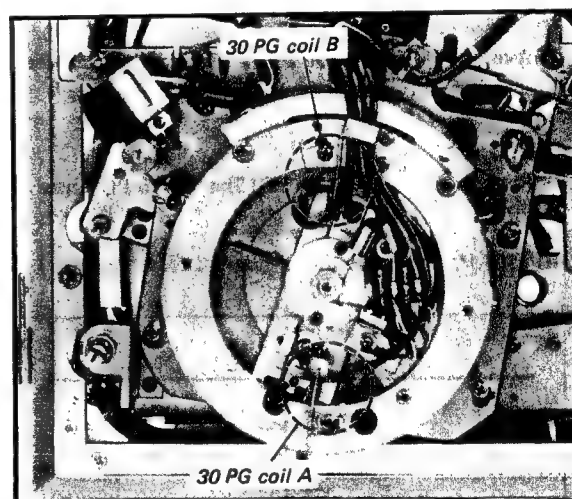

Fig. 6-8. 30 PG Coils A and B
6. If it is correct, proceed to the "30 PG PULSE PHASE CHECK" in Sec. 6-9. If it is not correct, reposition 30 PG Coil A, which is mounted at the front of the scanner, at the six o'clock position. See Fig. 6-8. Be sure the motor is off when making this adjustment. Proceed as follows.
9. Loosen the screw securing 30 PG coil B, which is mounted at the rear of the scanner, at the 12 o'clock position. See Fig. 6-8.